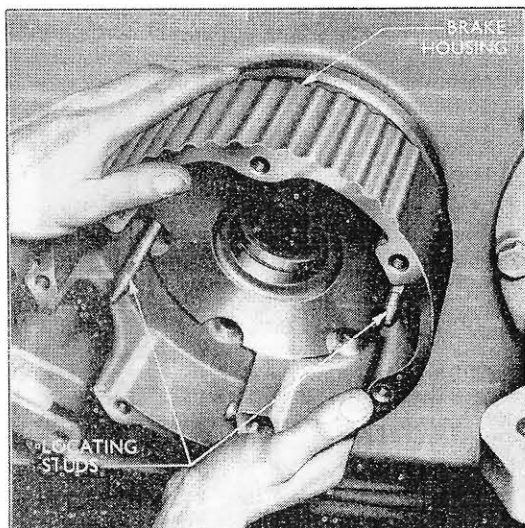

Fig. 12
3. Fit the two bull pinion housing locating studs (Tool No. PT.4063) and replace the brake housing (see Fig. 12), tightening the six self-locking bolts to a torque of 55-65 lb./ft. (7.61-8.99 kg.m.).